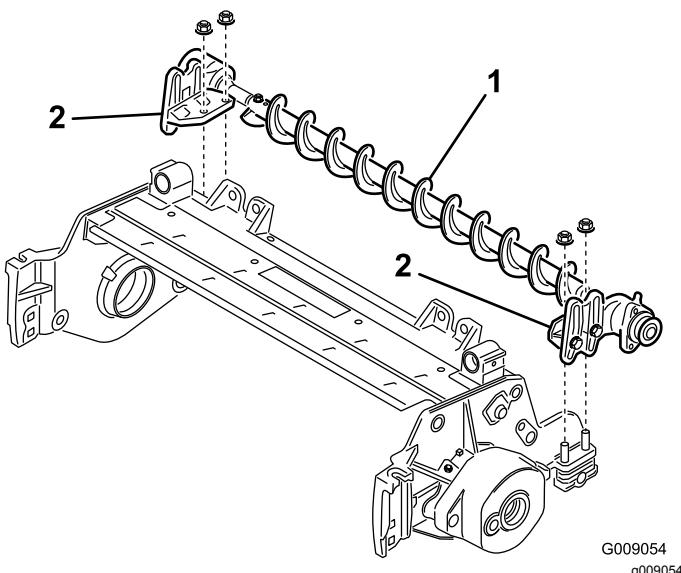

Figure 8
7. Position the roller-brush mounting brackets onto the roller-bracket bolts (Figure 8).